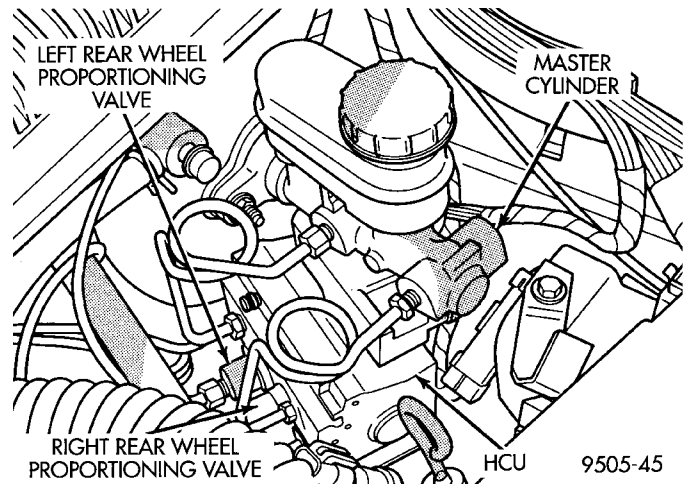

Fig. 23 Rear Wheel Proportioning Valve Location On HCU
(1) Disconnect the brake tube fitting from the proportioning valve requiring removal from the HCU (Fig. 23).
(2) Remove proportioning valve (Fig. 23) requiring replacement, from the HCU.